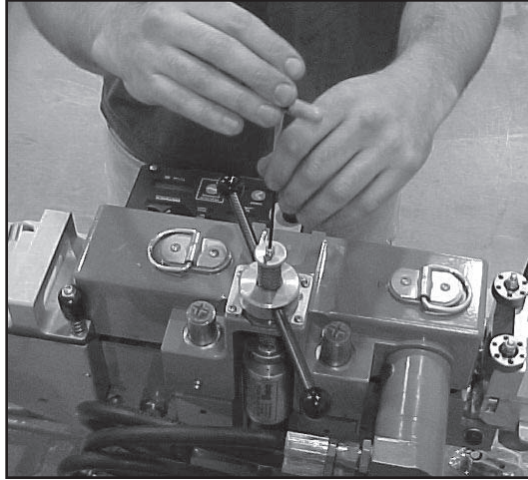

Figure 1
1. Remove screw and washer (Figure 1)